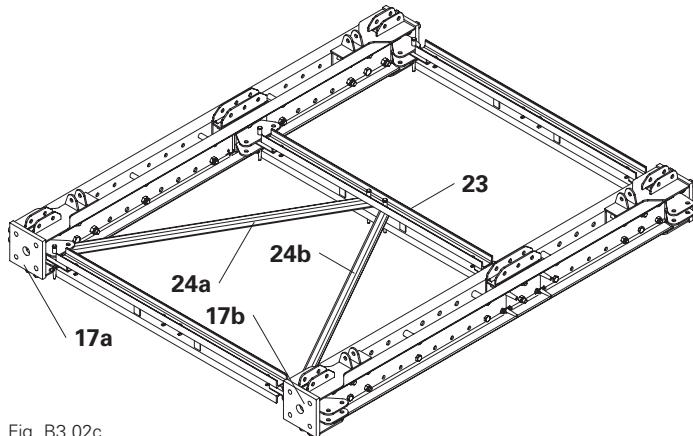

Fig. B3.02c
5. Secure both diagonal struts VST 200/150 (24)* to the horizontal ledgers VST 200 (23) using 1x fitting pin Ø 21 mm (9) respectively. (Fig. B3.02c)